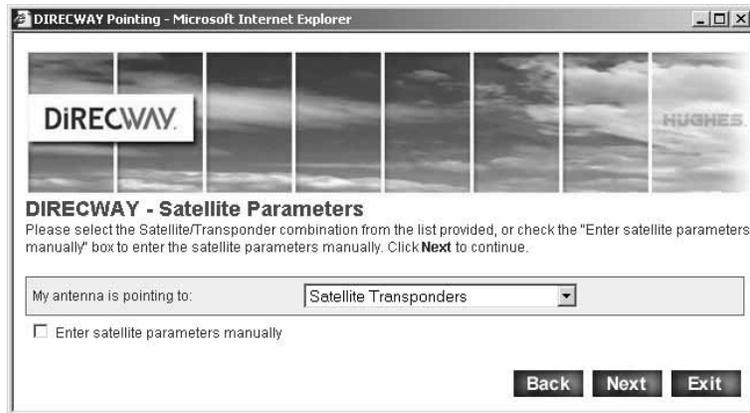

Figure 22: Selecting the satellite and transponder
7. Click the *Satellite Transponders* drop-down menu on the Satellite Parameters screen shown in Figure 22 and select the satellite and transponder listed on the work order or in the installation specification; then click **Next**.
- a. Select the Enter satellite parameters manually check box on the Satellite Parameters screen shown in Figure 22.
Note: You are only required to verify the satellite parameters are correct if you selected the satellite and transponder as shown in Figure 22. If you manually entered the satellite parameters, the Verification of Satellite Parameters screen does not appear.